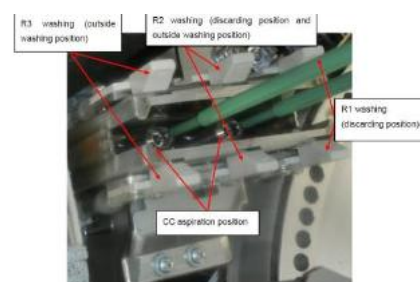

Figure 3.8 Washing position
- Perform Pulse Adjustment that the distance between Washing Station and R2 Probe is 33 ± 0.5 mm (Figure 3.8 and 3.9)
- Perform Pulse Adjustment so that the distance between Washing Station and R2 Probe is 20 ± 0.5 mm (Figure 3.8 and 3.9)
- Perform Pulse Adjustment so that the distance between Washing Station and R2 Probe is 7 ± 0.5 mm (Figure 3.8 and 3.9)